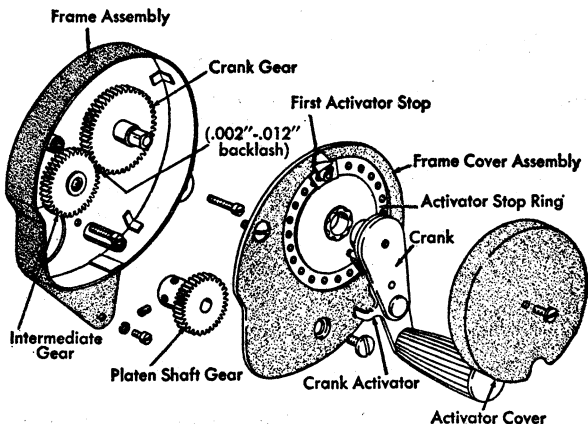

Figure 2. Form Line Selector
4. Remove the cover assembly from the main frame assembly (Figure 2).
7. Fasten the platen shaft gear on the platen shaft and align it with the intermediate gear. A bristo setscrew driver has been furnished for this adjustment (Figure 2).
9. Adjust the intermediate gear (front to rear) so that there is a backlash of .002" to .012" between it and the crank gear (Figure 2).
11. Install the crank on the crank gear and tighten the bristo set screws (Figure 2).
16. With the form at the desired first writing line, position the first activator stop (with pointer) so that it will have $1/64$ " clearance with the activator in the depressed position (Figure 2).